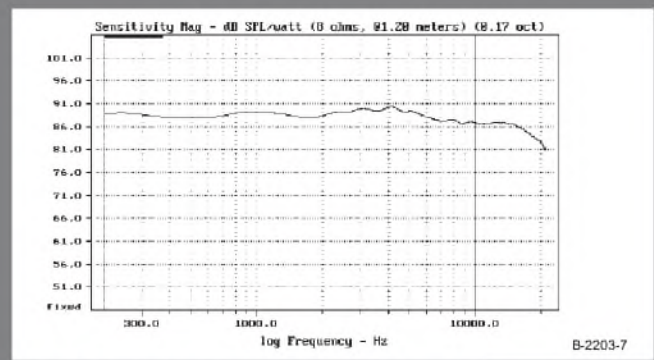

FIGURE 7: Froy horizontal response averaged over  $\pm 30^\circ$ .
sound in a typical listening environment (*Fig. 7*). This response is within 1dB of the on-axis response out to 10kHz and is only 2dB down at 15kHz. This is excellent horizontal performance and suggests good direct field coverage in the primary listening area with little change in spectral balance with changing position. Image stability should be very good.
*Figure 7*—Smooth overall. However, while the peak at 4kHz is small in dB value, you see a noticeable “corner-like” effect. In my experience, such slope-changing effects are audible.